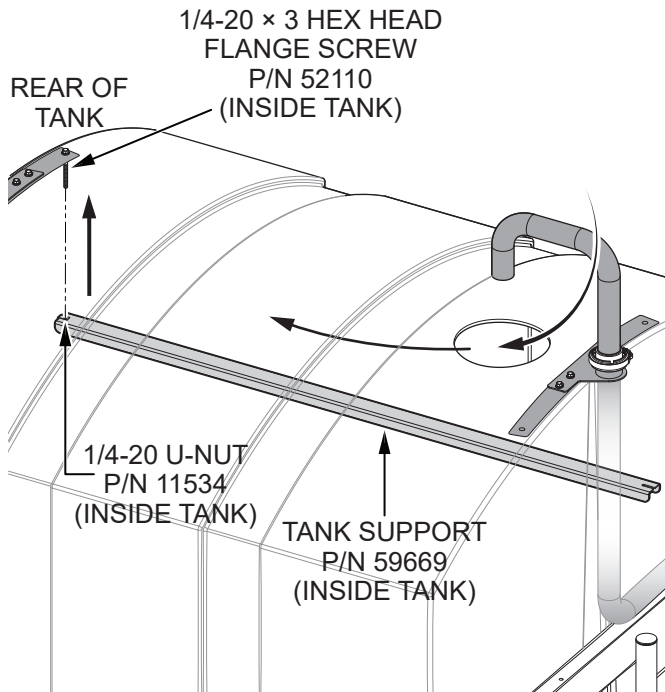

Figure 13. Guide Tank Support Into Tank And Align U-Nut With Screw
- Remove the tank lid and place the end of the **tank support (P/N 59669)** with the **1/4-20 U-nut (P/N 11534)** on it through the tank opening (Figure 13). Guide the U-nut end of the tank support towards the rear of the tank.
- Lift the end of the **tank support (P/N 59669)** and align the **1/4-20 U-nut (P/N 11534)** with the **1/4-20 x 3 hex head flange screw (P/N 52110)** that was inserted during step 1. See Figure 13. Assistance may be required to help guide the tank support. Shining a flashlight through the tank may help with locating the hardware.